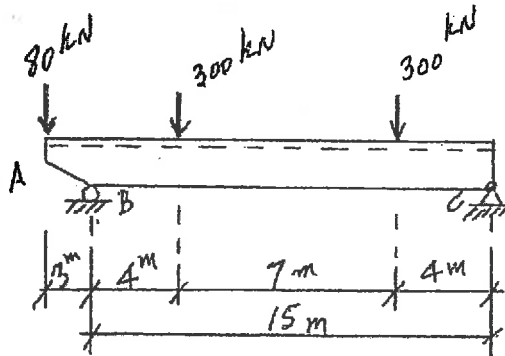

FIGURE 3
4. Figure 3 shows a prestressed concrete T-beam.